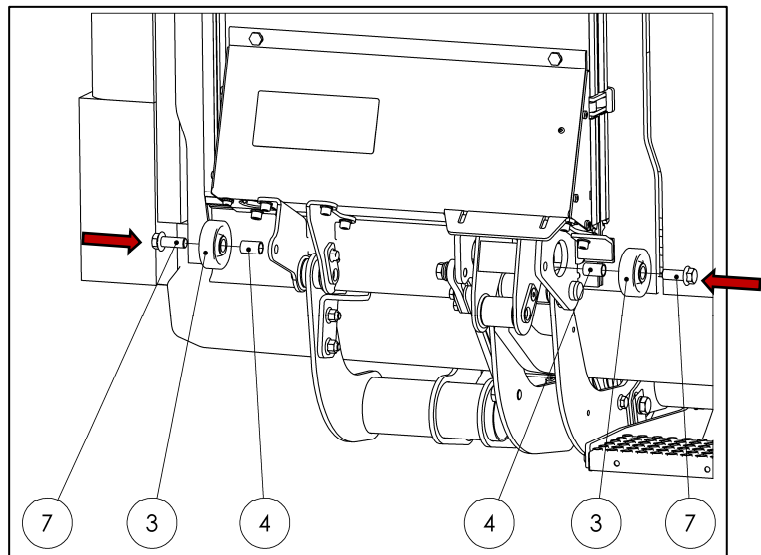

Fig. 59
- Remove the flange screws (7), bushings (4), and ground rollers (3) from the accessories kit (see Fig. 59).